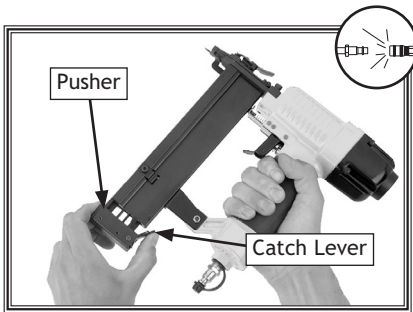

Figure 3. Sliding magazine pusher back and engaging catch lever.
2. Grip the stapler firmly, unlock the catch lever (**Figure 3**) and pull the magazine pusher back